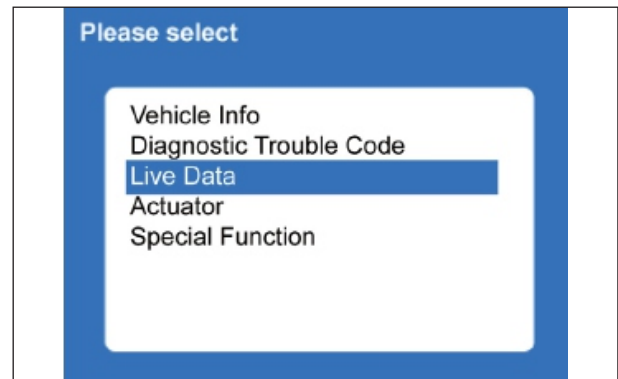

Fig. 7.17
- This menu has the values of all the vehicle parameters available to be read by the tool. This menu will display the running parametric value when the vehicle is started. (Fig. 7.17)